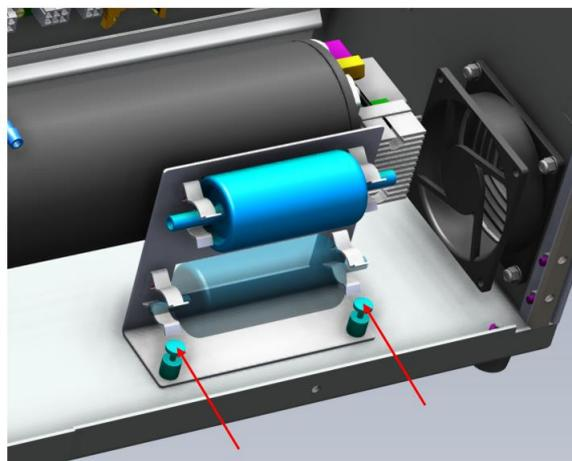

Figure 205 – Replacing the Filter Holder Bracket
3. Slide the optical cell and sample manifold back and to the right until the two brackets align. Using a long M4 screwdriver, tighten the captive screws on the cell bracket two at the front and two at the back, all accessed from the front. Refer to Figure 205.